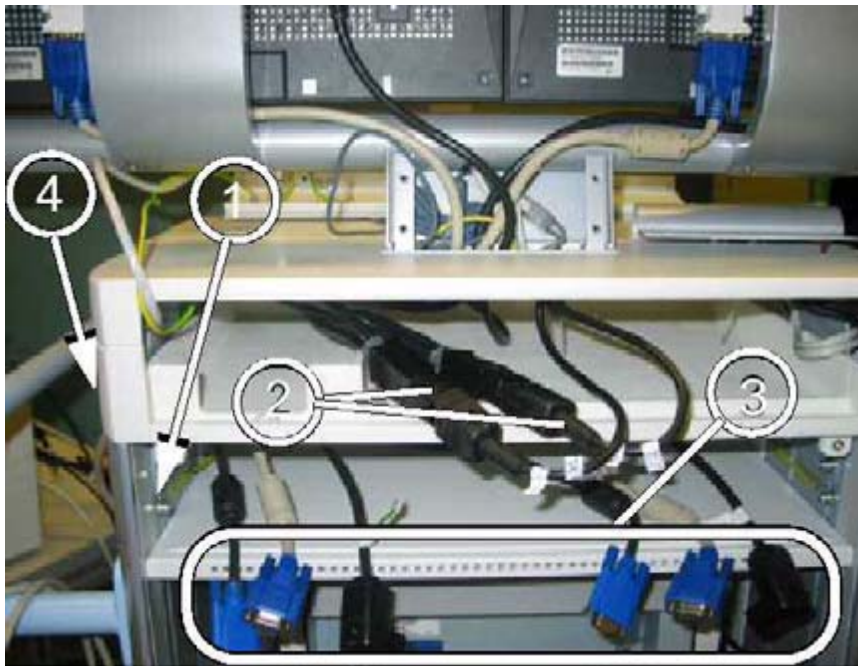

Fig. 2: Cables
1. Remove the rear and side covers of the monitor trolley (already performed in \(Fig. 2 / p. 6\) and \(Fig. 3 / p. 7\)).
2. Check if the space of 4 mounting holes (1/Fig. 2 / p. 6) is available at the slot. If not, displace the panel because the space is necessary for the video splitter.
3. Disconnect the power cable from the live monitor and reference monitor (if option is available) and pull this cable back to the location shown in (2/Fig. 2 / p. 6).
4. Use the supplied kit to run the power cables as shown in ((4/Fig. 2 / p. 6) and (Fig. 3 / p. 7)). The angle plug must be inserted into the round cable duct inlet as shown in (Fig. 3 / p. 7).
5. Pull the angle cable plug of each distributor cable to location (3/Fig. 2 / p. 6).
6. Connect the distributor cable (straight plug) to the disconnected power cable of the monitors (2/Fig. 2 / p. 6).
7. Connect the 2nd piece of the distributor cable (straight plug) to the corresponding monitor as shown in (Fig. 2 / p. 6).
8. Disconnect the monitor VGA cable from the live monitor and reference monitor (if option is available). Pull the cable(s) back to the location shown in \(2/ Fig. 2 / p. 6\)
9. Use the supplied kit to pull the VGA cable(s) from location \(3/ Fig. 2 / p. 6\) to the monitor(s) and connect it/them to the monitor(s). Run the cables as shown in \(Fig. 3 / p. 7\).